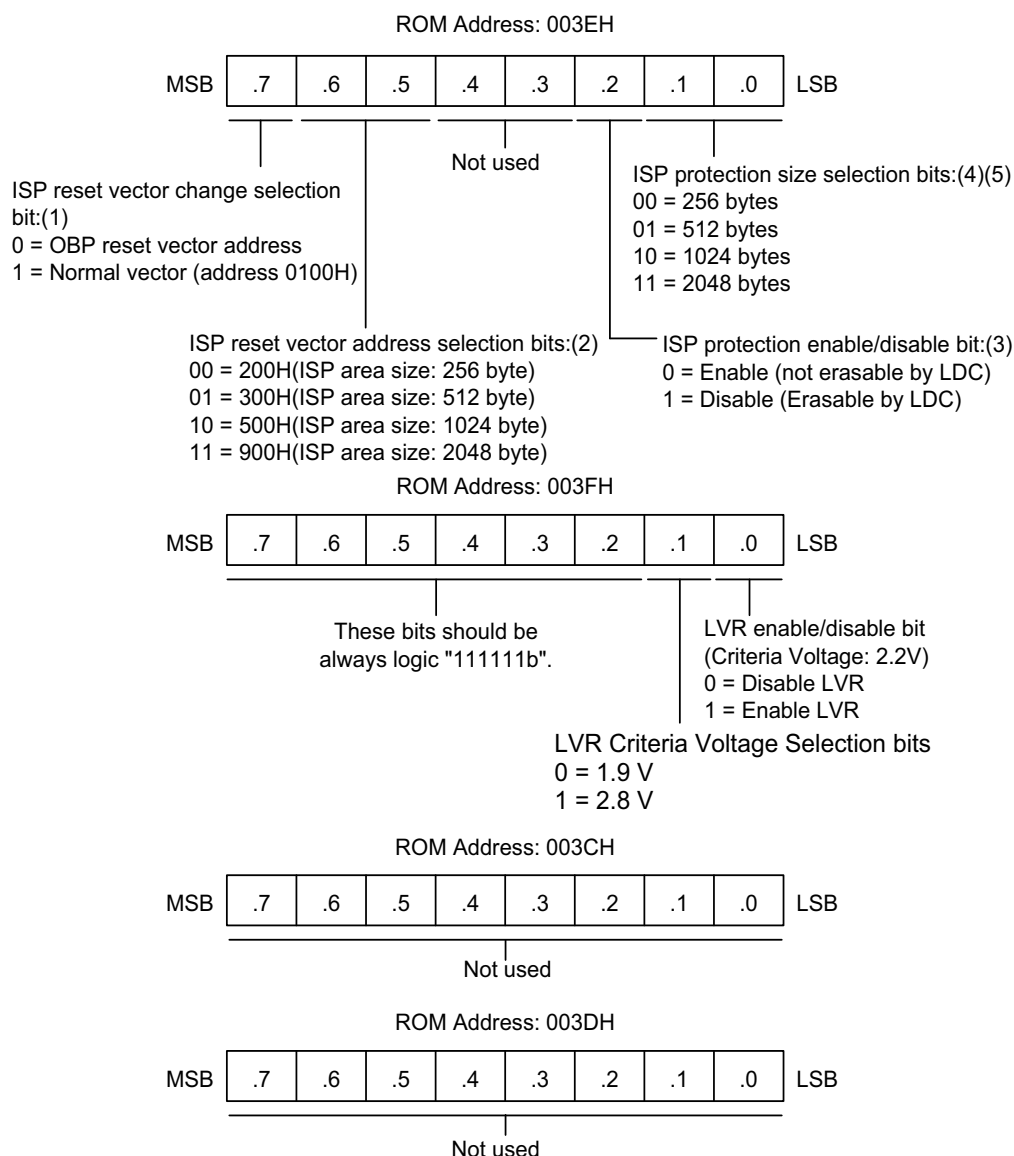

Figure 15. Smart Option
The *Smart Option*, diagrammed in Figure 15, is the ROM option for the start condition of the chip. The ROM address used for the smart option ranges from 003Ch to 003Fh. The S3F8S5A MCU uses only addresses in the range 003Eh to 003Fh.
1. In Figure 15, by setting ISP reset vector change selection bit (3E . 7) to 0, the ISP area becomes available. If this bit is 1, 3Eh . 6 and 3Eh . 5 are rendered meaningless.